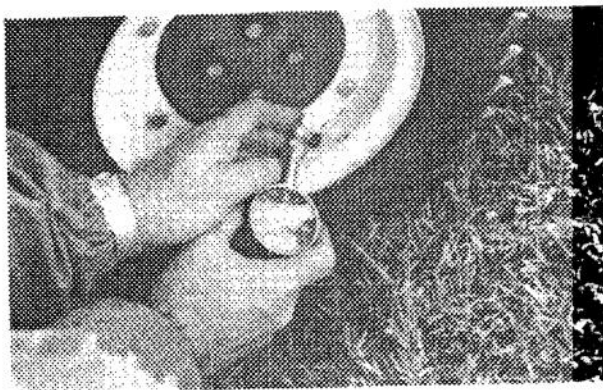

Figure 11
2. Height-of-Cut — To determine the effective height-of-cut, the length of the grass to be cut must be checked. Height-of-cut should be set and turf mowed frequently so no more than 1/3 of the leaf is cut off. If mower is equipped with pneumatic tires, pressure must be maintained at 35 psi (241.3 kpa) (Fig. 11). Low tire pressure can cause bedknife to dip into the grass and scalp the turf. An uneven cut will likely result.